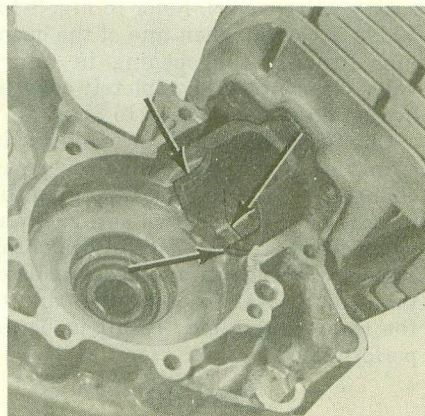

Fig. 3-11—The cylinder should match with crankcase openings. Arrows indicate locations of possible misalignment.
lowed. If the transfer ports and passages are reshaped; be sure that they are all alike and correct. The angle (A —Fig. 3-8) of the inlet passage and port (TA) determines the direction of the fuel-air charge entering the cylinder; if incorrect, fuel will be wasted and the cylinder will not be cleared of old gases. The transfer passage in crankcase, gasket, cylinder, and sometimes piston skirt, should be matched to provide smooth, nonrestrictive flow. Refer to Fig. 3-11.